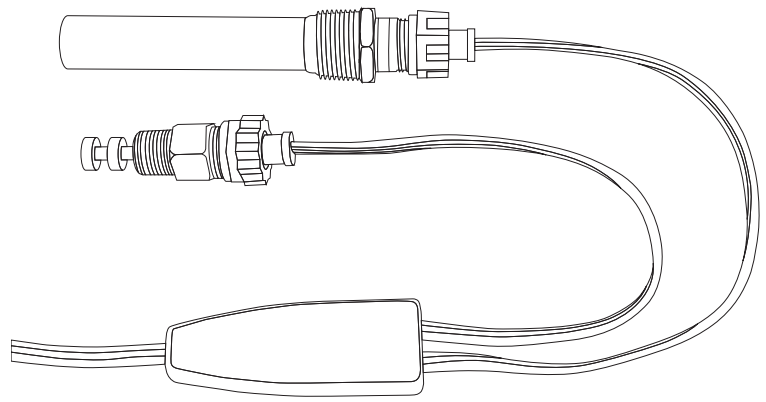

Figure 11. Weathertight oil heaters and thermostats have replacement parts available, including straight cords and Y-cords.
Weathertight heaters (with the prefix "OW-") as shown in Fig. 11 have the following replacement parts available (sold separately):
- Y-cord (with thermostat) See Fig. 11.